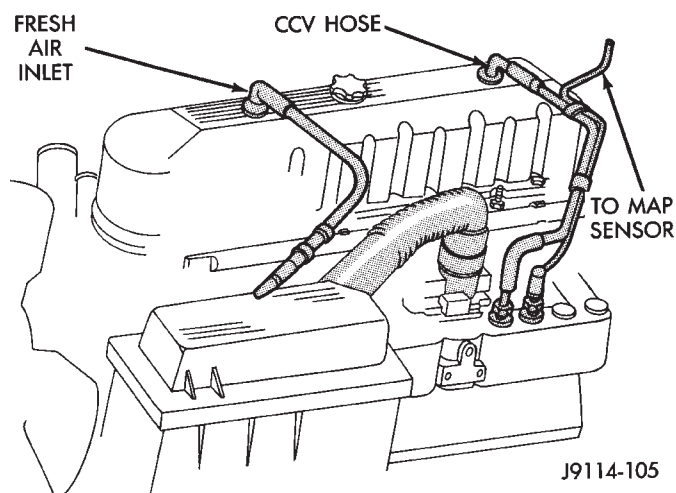

Fig. 12 Engine Cylinder Head Cover
(1) Disconnect negative cable from battery.
(2) Disconnect the Crankcase Ventilation (CCV) vacuum hose from engine cylinder head cover (Fig. 12).
(3) Disconnect the fresh air inlet hose from the engine cylinder head cover (Fig. 12).
(4) Remove the engine cylinder head cover mounting bolts.
(5) Remove the engine cylinder head cover.
(1) If a replacement cover is installed, transfer the CCV valve grommet and oil filler cap from the original cover to the replacement cover.
(2) Install engine cylinder head cover. Tighten the mounting bolts to 9 N•m (75 in. lbs.) torque.
- (3) Connect the CCV hoses (Fig. 12).
- (4) Connect negative cable to battery.